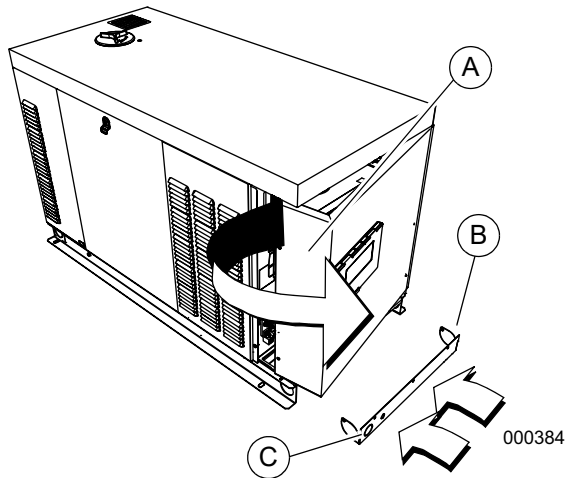

Figure 5-2. Remove Rear Panel and Stub-Up Cover
1. See Figure 5-2. Remove six screws with nylon washers to release rear panel (A) from enclosure. For best results, rotate left side of panel outward away from enclosure before disengaging right side.
NOTE: See *Figure 5-2*. Remove knockout plug and route accessory wiring to customer supplied weather-proof junction box. Verify wires do not contact moving or vibrating engine parts, as abraded wires can result in electrical problems.